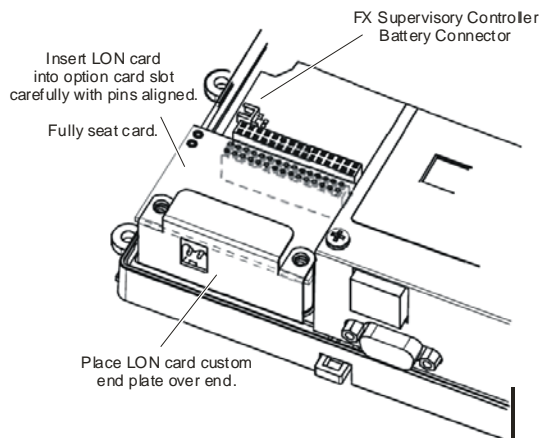

Figure 5: Inserting LON Card
7. Place the custom end plate that came with the LON card over its connector (see Figure 5).
8. Plug the battery cable into the battery connector on the FX Supervisory Controller (see Figure 5 for location).